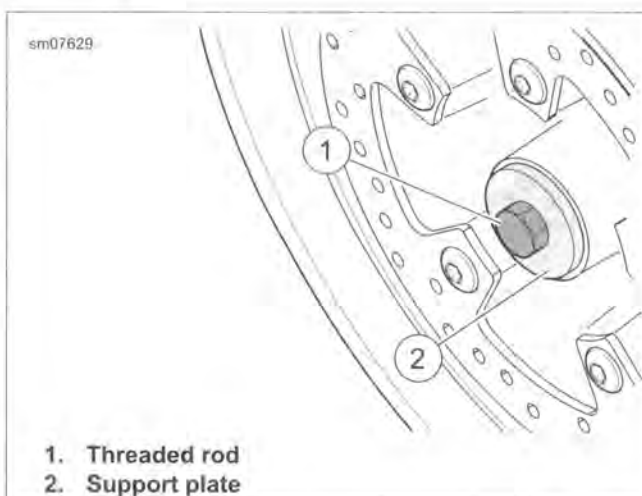

Figure 2-23. Assembling Installation Tool
1. See Figure 2-23. Sparingly apply graphite lubricant to threads of threaded rod (1) of WHEEL BEARING REMOVER/INSTALLER (Part No. HD-44060C).